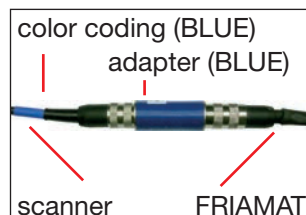

Fig. 3
- Connect the scanner cable with color coding (BLUE) and the blue adapter with the connector of the FRIAMAT data cable (Fig. 3).